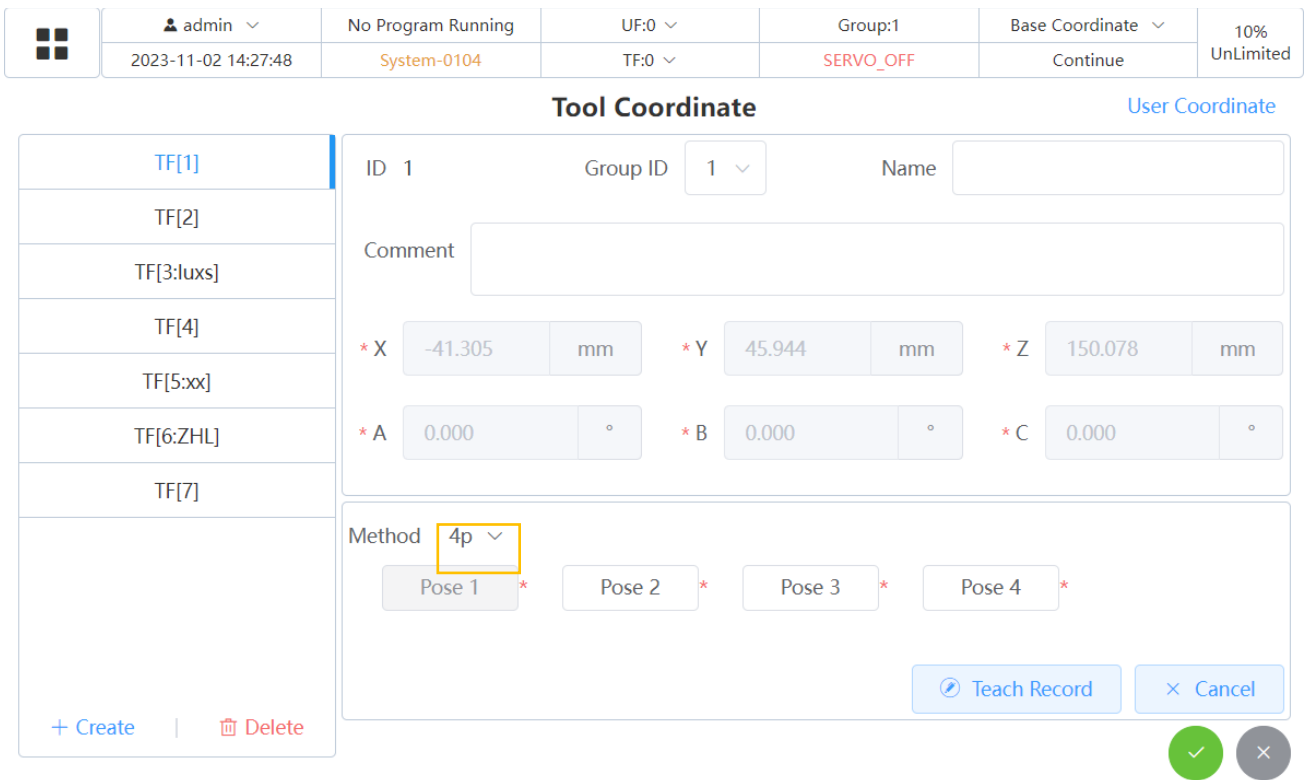

Fig. 2.19 Tool Coordinate System Setting Interface
- Click "Menu Button" → "Coordinate System" → "Tool Coordinate System" to enter the interface as shown in Fig. 2.19, and then select the 4P method.